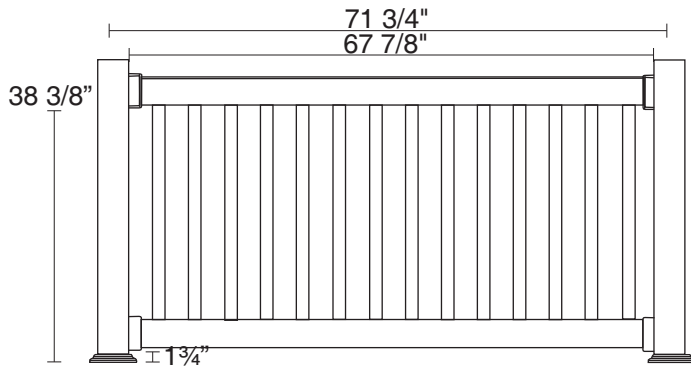

Figure A.1
- 6 Ft. Section - on maximum 71 3/4" centers (+1/4") (See Figures A.1)